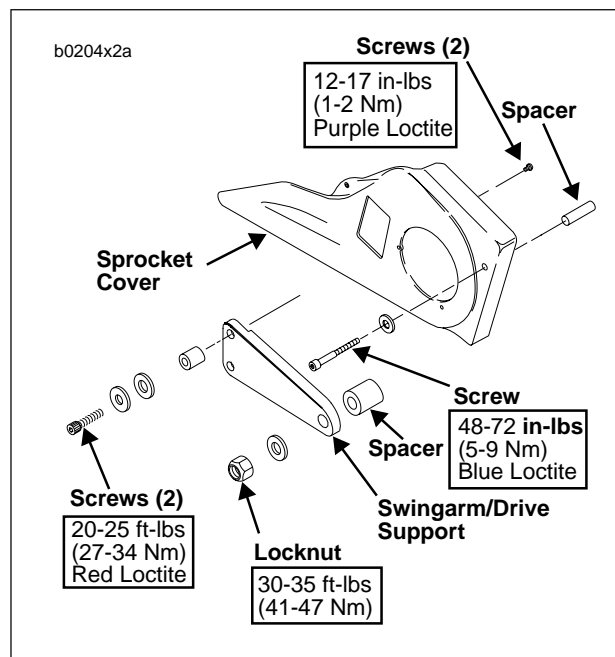

Figure 2-95. Sprocket Cover
2. See Figure 2-95. Remove two screws from swingarm/drive support.
1. See Figure 2-95. If removed, attach sprocket cover to swingarm/drive support.